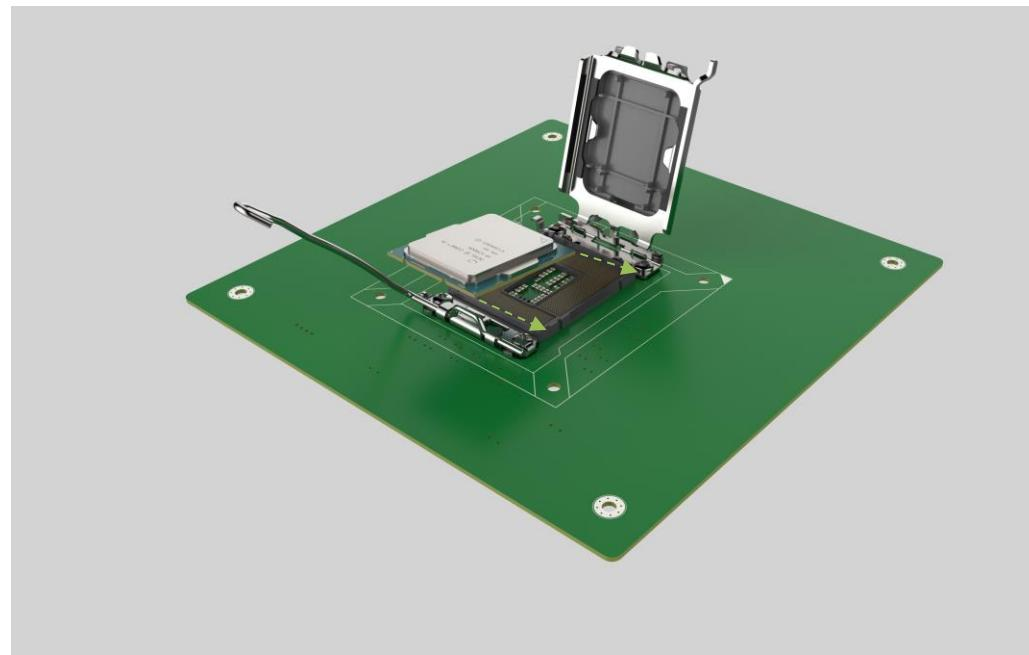

Figure 4-5: Insert the Socket LGA1700 CPU
Step 7: **Insert the CPU.** Gently insert the CPU into the socket. If the CPU pins are properly aligned, the CPU should slide into the CPU socket smoothly. See **Figure 4-5.**